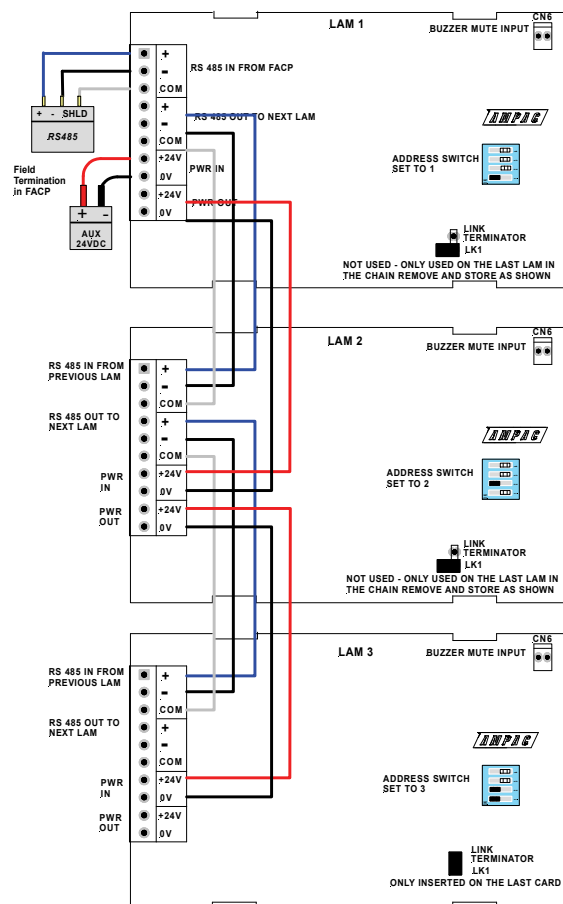

Figure 2: General Wiring of 3 LAM's
5. Set the address (1 to 8) on the LAM as in *Figure 2*